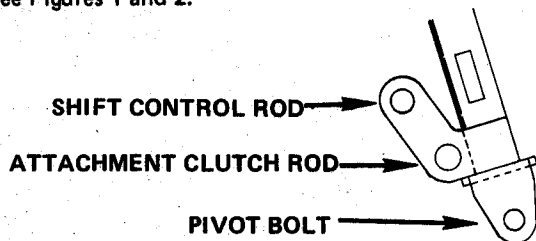

FIGURE 1
- Shift the attachment clutch handle to the "IN" position. Place a .380 washer (64093) on the end of attachment clutch rod and insert the rod into the LOWER hole in the handle. Secure with a cotter pin 1/8 x 1/2" (67018). See Figures 1 and 2.
- Place shift handle in 5th speed position. Push down on shift rod. The end of the shift rod should align with the UPPER hole in the handle if the rod adjustment is correct. See figure 1. If the rod does not align with the hole, adjust the length by screwing the rod up or down until the end of the shift rod lines up with the upper hole in the control handle, then tighten the shift rod jam nut.